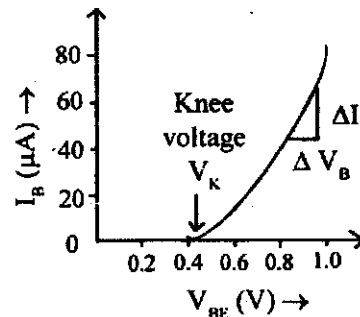

Fig. 34.27 : Input characteristics of a transistor in common emitter configuration
i) Input Characteristics: These curves give the relationship between the base current (I_B) and the base-to-emitter voltage (V_{BE}) for a constant collector-to-emitter voltage (V_{CE}). To obtain these curves, voltage V_{CE} is maintained constant at a convenient value and then V_{BE} is increased in small steps. The procedure is then repeated for a different but constant value of V_{CE} . A typical input characteristic curve is shown in Fig.34.27 where the corresponding values of V_{BE} and I_B are plotted along the x- and y-axis respectively. Like the C-B connection, the overall slope resembles the forward characteristic of a p-n diode. Again, there exists a knee voltage below which the base current is negligibly small. Beyond the knee, the base current I_B increases with the increase in V_{BE} . However, the base current does not increase as rapidly as the input current in the CB transistor. It means that the input resistance of a CE configuration is higher as compared to the common base configuration. It is given as shown in fig. 34.27.